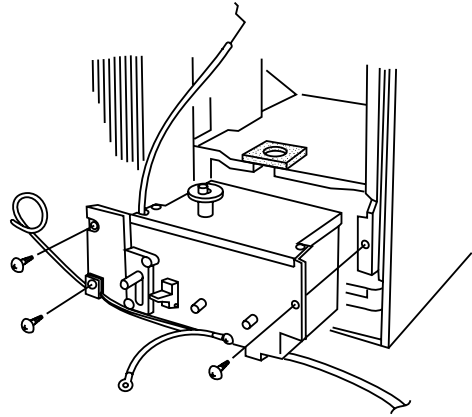

Fig. 20
- (5) Disengage the ventilator lever wire from the ventilator door. (Fig. 20)
- (6) Remove screws, then pull out the electrical component box. (Fig. 20)